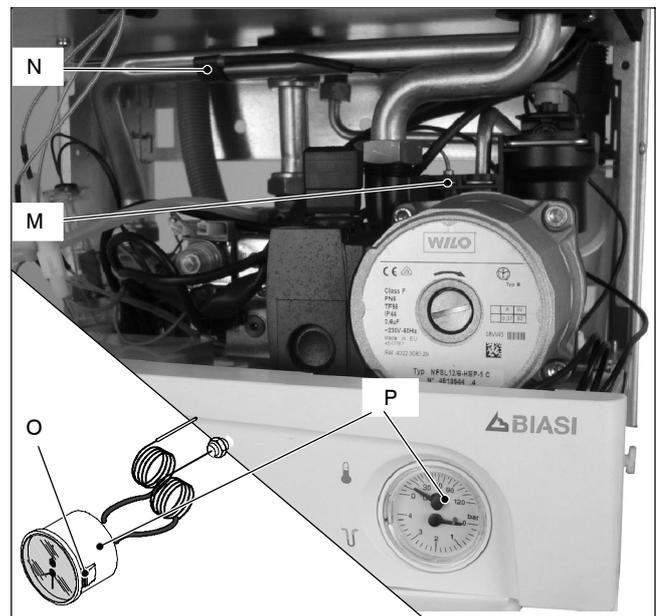

Fig. 8
- 2 Remove the fork *M* and the probe holder spring *N* (Fig. 8).